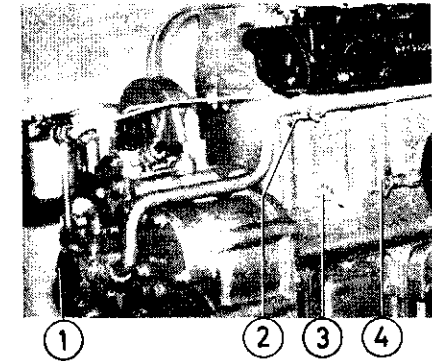

Fig. 6. Cooling water draining.
1. Open the drain cocks on the starboard side of the cylinder block (3 and 4, Fig. 6).
3. Shut the sea-cock, loosen the cover on the sea-water pump (1) and make sure that the pressure pipe for the cooling water is drained.